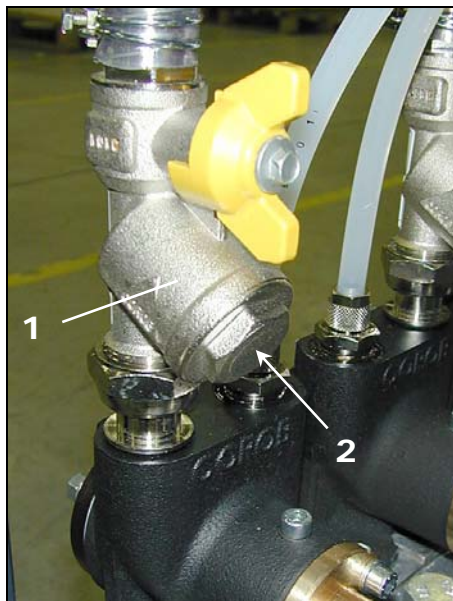

Figure 8-6
7. You may now proceed with cleaning every filter on the machine (Figure 8-6).
- Find the filter (1) located above the pump.
- Insert a can large enough to collect the residual colorant left in the filter compartment under the filter cap (2).